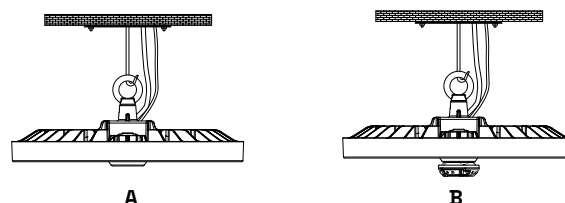

Fig 2
2. Hang the fixture on the ceiling hook or chain (Fig 2).